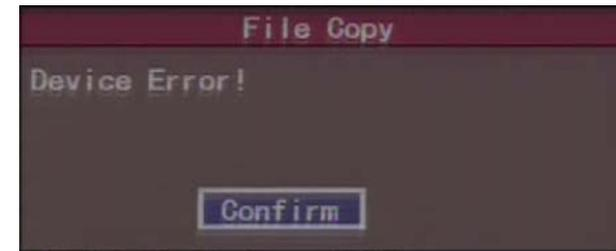

Fig.4.11
2. If “Device Error” dialog (Fig.4.11) pop-up, please check the device connection.